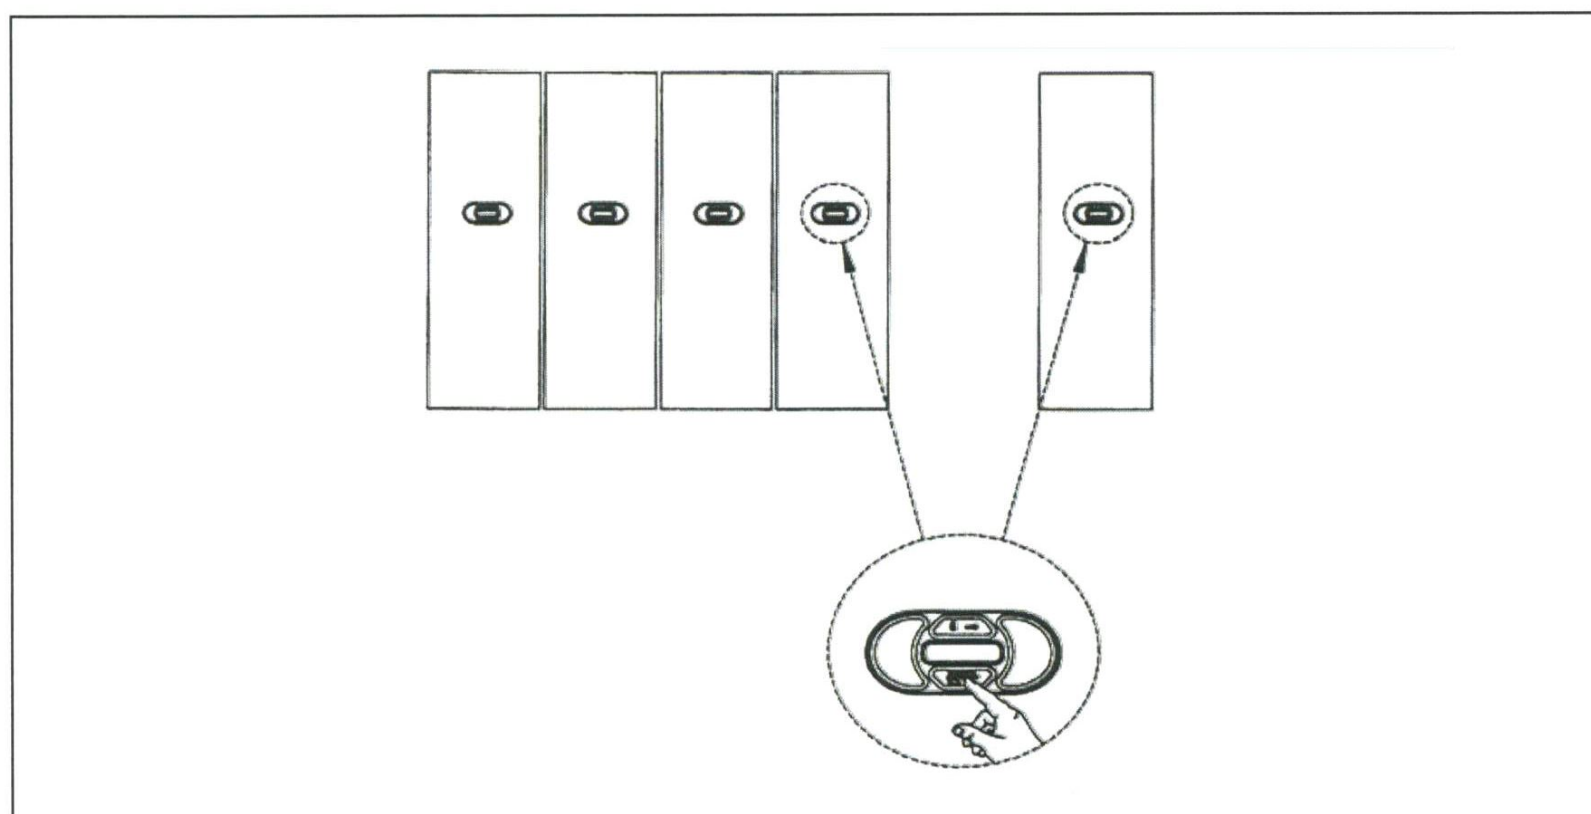

Figure 2 Touch STOP touch-pads on both sides of the opened aisle
- Clear the open aisle(s) first by pushing the illuminated STOP buttons on the left- and right-hand side of the open aisle(s) (see figure 2).